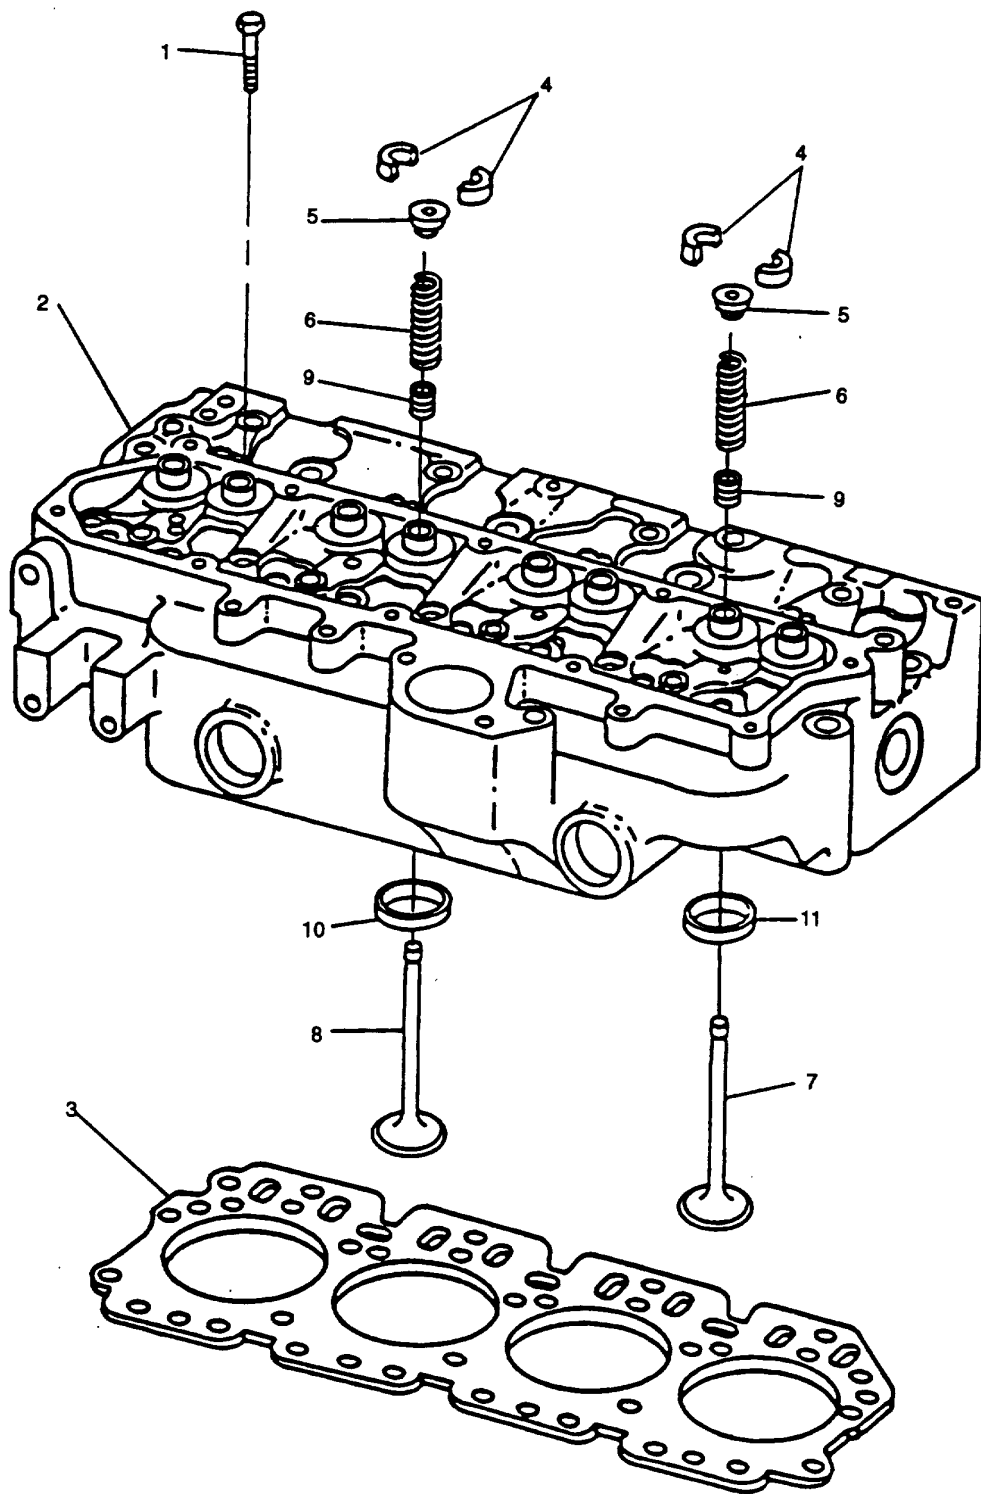

FIGURE 3-99. Cylinder Head Assembly
- k. If a blown head gasket is suspected, check and record each cylinder head capscrew (1, FIGURE 3-99), torque before removing them as follows:
- (1) Make a reference mark (in-line) on head of capscrew and cylinder head surface.
- (2) Loosen capscrew at least 1/2 turn, then retighten capscrew (using a torque wrench) until reference marks align and record torque.
- l. Remove eighteen capscrews (1) securing cylinder head to engine block.
- m. Using lifting device, lift cylinder head (2) from block. If cylinder head sticks, use a soft hammer to tap the cylinder head.
- n. Remove cylinder head gasket (3), inspect for possible oil, coolant, or combustion chamber leaks. Also, check for evidence of incorrect or defective head gasket being used.